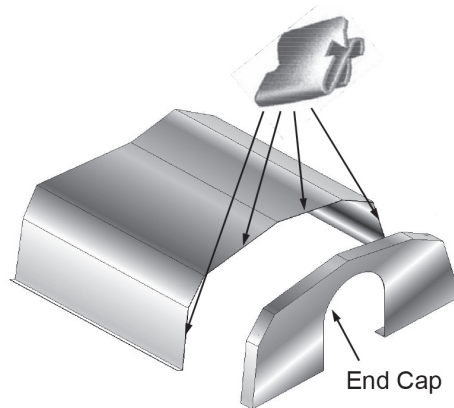

Figure 16. End Cap and Z-Clip
- a. Position end cap beneath reflector with end cap flanges facing inward and secure using four Z-clips (see Figure 16).